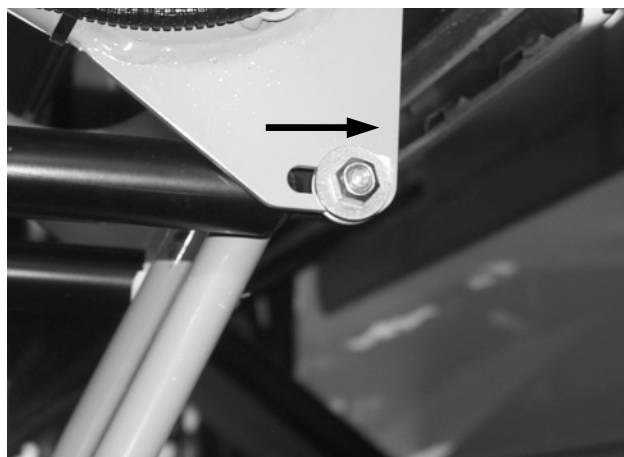

Figure 5: Outward pivot movement in J-link bracket slot
- 3) Undo but do not remove the nut securing the spring pivot to the J-link bracket (see Figure 5), while carefully watching the mounting pivot in the bracket slot for outward movement. With the spring at the end of its stroke, there shouldn't be any outward movement of the pivot.